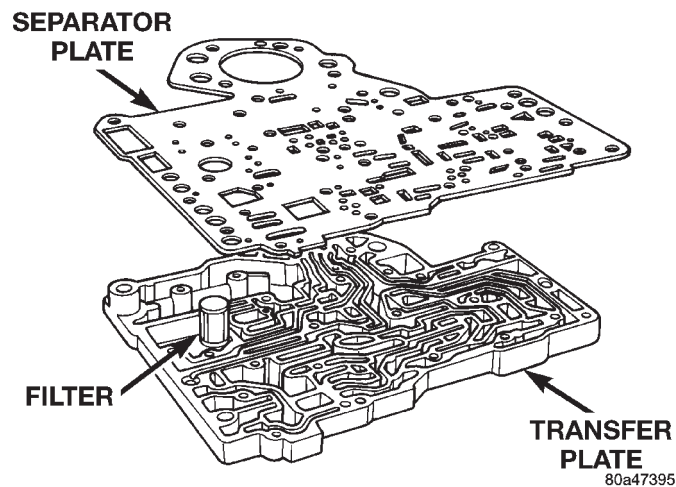
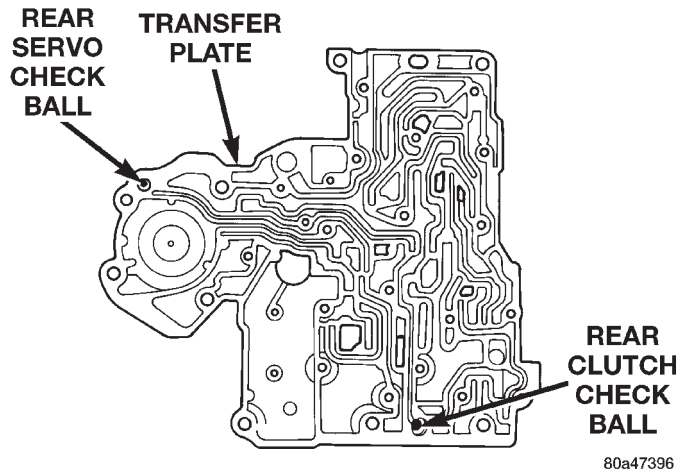

Fig. 49 Transfer And Separator Plates
Fig. 50 Rear Servo and Rear Clutch Check Balls
(19) Remove screws attaching separator plate to transfer plate (Fig. 49).
(20) Note position of filter, rear clutch servo and rear servo check balls for assembly reference (Fig. 49) and (Fig. 50).